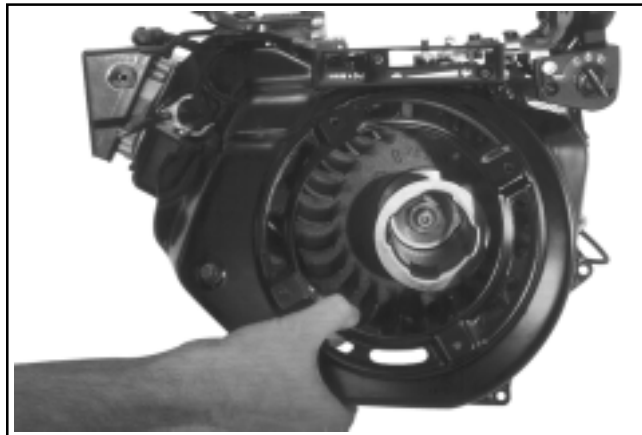

Figure 11-96. Installing Blower Housing.
1. Install the blower housing behind the throttle link and dampening spring. Start all the hex. flange screws. On CS4 and CS6 engines, secure the ground lead with the silver screw in the upper right hand location. See Figures 11-96, 11-97, and 11-98. Torque the screws to **7 N-m (62 in. lb.)**.